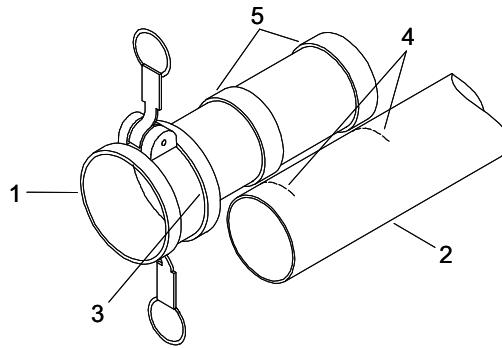

Figure 38. Suction Hose Assembly Repair.
8. Using the male or female coupling half (Figure 38, Item 1) as a guide, align the cut end of one section of hose (Figure 38, Item 2) with the machined stop (Figure 38, Item 3) of the male or female coupling half (Figure 38, Item 1).
9. Using a marking pen, mark two lines (Figure 38, Item 4) on the hose (Figure 38, Item 2) where the hose barbs (Figure 38, Item 5) will be located.